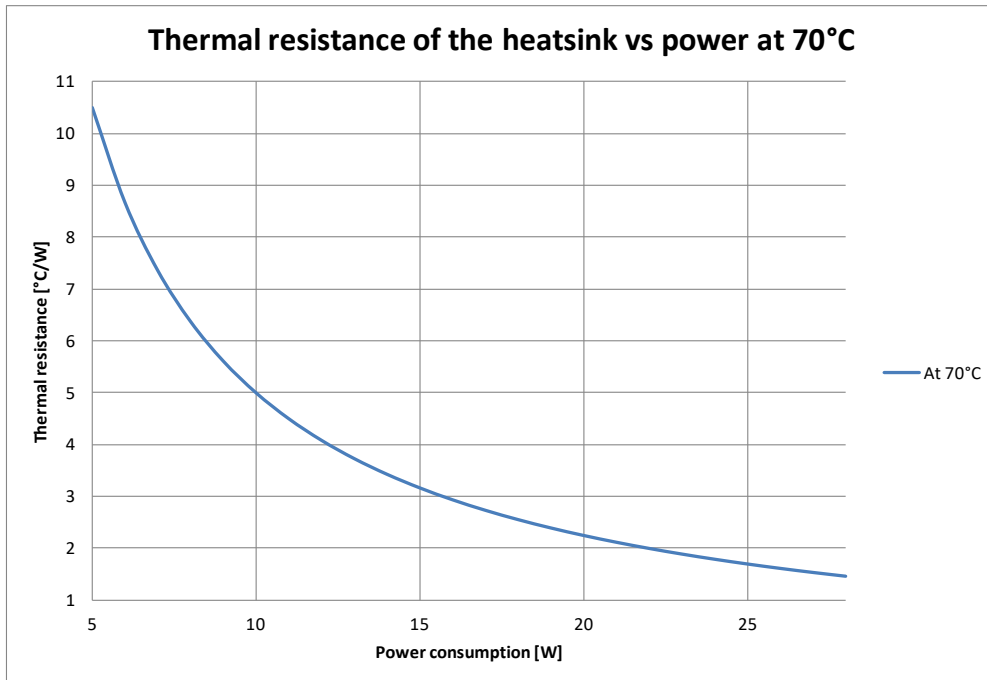

Figure XIII-2: Maximum thermal resistance depending on the power consumption, at +70°C.
- At +70°C, depending on the power consumption, on the Figure XIII-2.